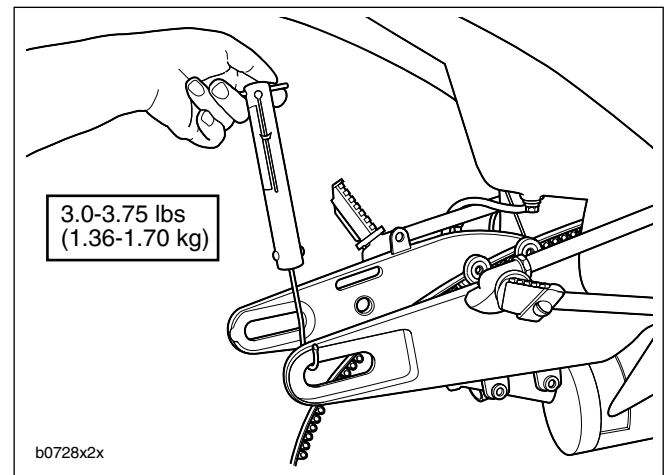

Figure 2-78. Checking Preload
3. Tighten left side swingarm pinch screw (4) to 18-20 ft-lbs (24-27 Nm).
4. Install threaded rod (1).
- b. Insert threaded rod through right side bearing adjustment bolt (2) into threads on left side bolt (3).
5. Check swingarm preload using a scale as shown in Figure 2-78. Preload should be 3.0-3.75 lbs (1.36-1.70 kg). If preload does not meet specifications, tighten or loosen threaded rod and recheck.